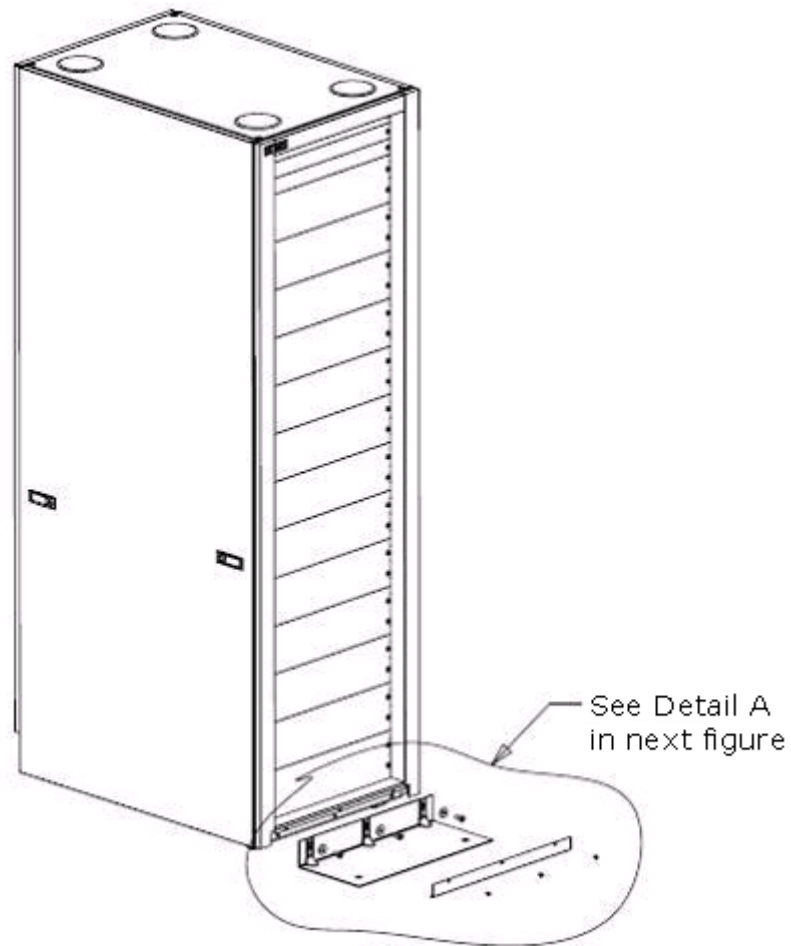

Figure C-18: Installing and Uninstalling the Anti-Tip Stabilizing Plate
- Install the front anti-tip stabilizing plate when installing or removing equipment to provide greater stability and safety. See Stabilizing the rack on page C-30 and Installing side stabilizer plates. Figure C-18: Installing and Uninstalling the Anti-Tip Stabilizing Plate on page C-33 shows an example of how to install the side stabilizer plates. Example of Installing the Side Stabilizer Plates (Detail A) on page C-32.
Figure C-18: Installing and Uninstalling the Anti-Tip Stabilizing Plate on page C-33 shows an example of how to install the side stabilizer plates.
Install anti-tip stabilizing plates to provide further stability to the rack. This extra stability is especially important when installing equipment into the rack or when removing equipment from it. Figure C-18: Installing and Uninstalling the Anti-Tip Stabilizing Plate on page C-33 shows the installation of the anti-tip stabilizing plate. Reverse these actions for uninstalling the anti-tip stabilizing plate.